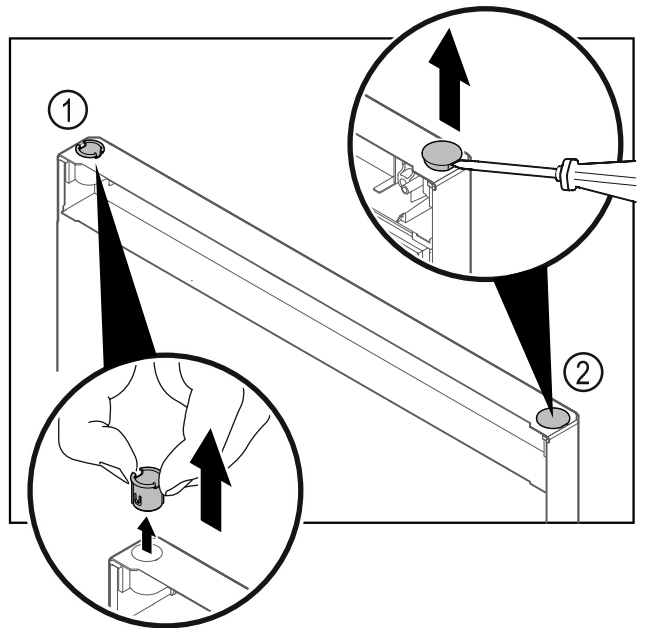

Fig. 21
- ▶ Pull out the hinge bushing Fig. 21 (1) with your fingers.
- ▶ Carefully lift the cover plug Fig. 21 (2) with a slotted screwdriver and pull it out.